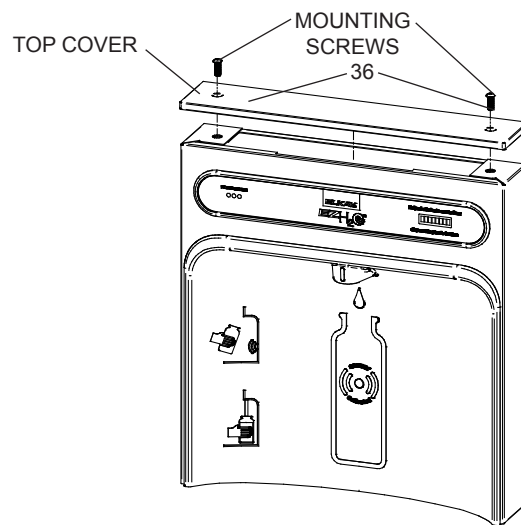
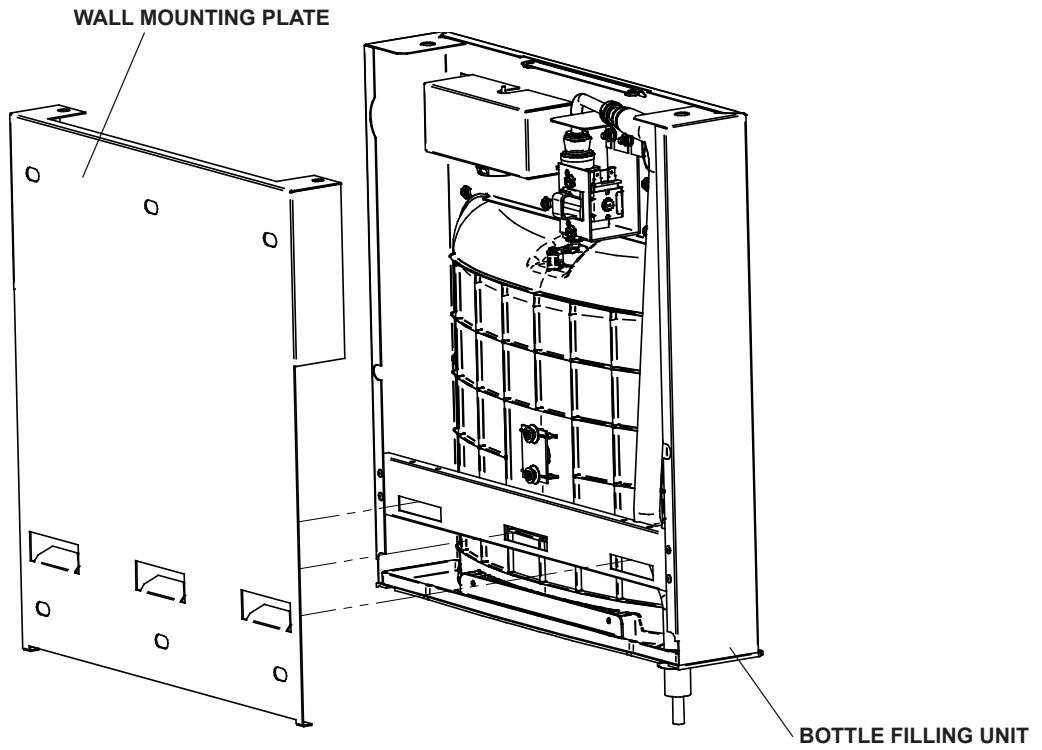

Fig. 6
Fig. 10
- 8) With the power cord and waterline through hole on top of water cooler place Bottle Filler on the three (3) angled tabs protruding from the wall mounting plate installed on wall. Make sure round boss in gasket fits in hole of basin. (See Fig. 10).
- 9) Once Bottle Filler is installed on wall plate tabs, water line and power cord are installed properly, push top of Bottle Filler toward wall and line up top cover two (2) holes.
- 10) Reinstall Top Cover on Bottle Filler (See Fig. 6) with two mounting screws from step 1 above. Caution, do not over tighten screws.